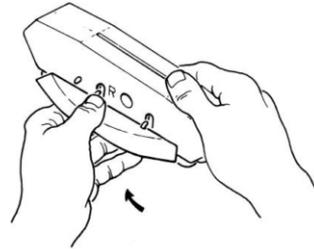

Figure 10
- Remove the old wings by raising the wings up toward the sides of the cleaner and lifting them off their hooks (See Figure 10). If any of the wing hooks are broken, take the cleaner to your Hayward dealer for a pod replacement since the unit will not function properly if the wings are not securely attached with the pod hooks.